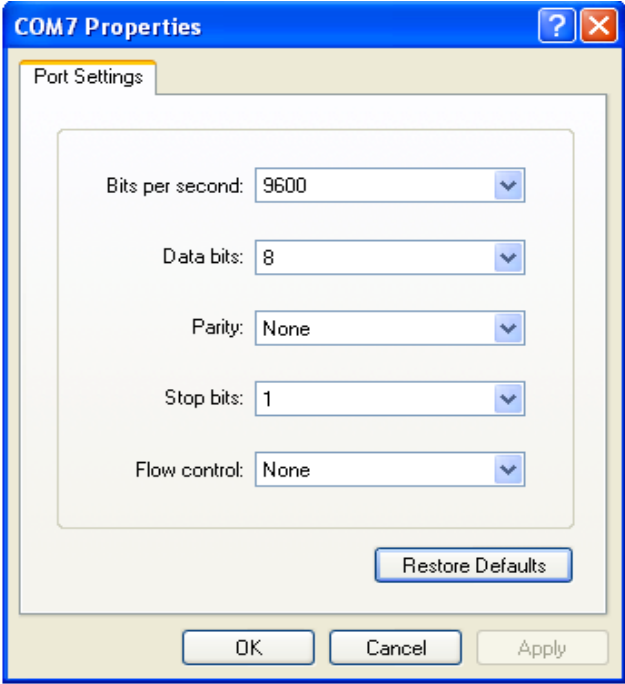

Figure 23: Port setting
Step 5: Port settings (Bits per second: 9600; Data bits: 8; Parity: None; Stop bits: 1; Flow control: None) as shown in Figure 23.